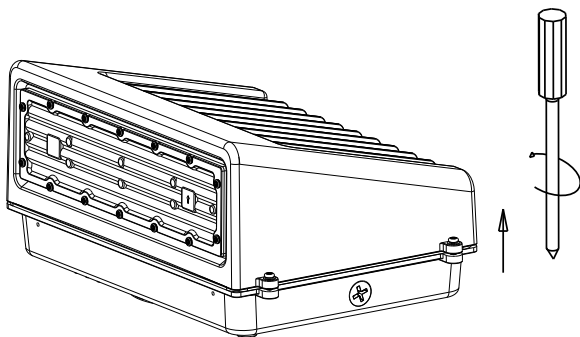

Fig. 1-1A
1. Take out the light, loosen the screws on the cover and take apart the fixture with a screwdriver. Pull off the quick connect terminal (Figure 1-1A & 1-1B)